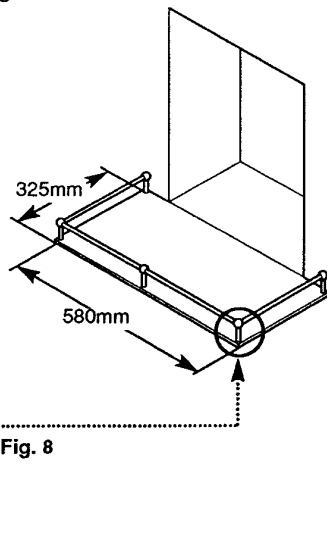

Fig. 8
3. Alternatively, a fender rail or upstanding edge of 50mm (2in) height can be fitted to the periphery of the 13mm (1/2 in) non-combustible hearth (Fig. 8).